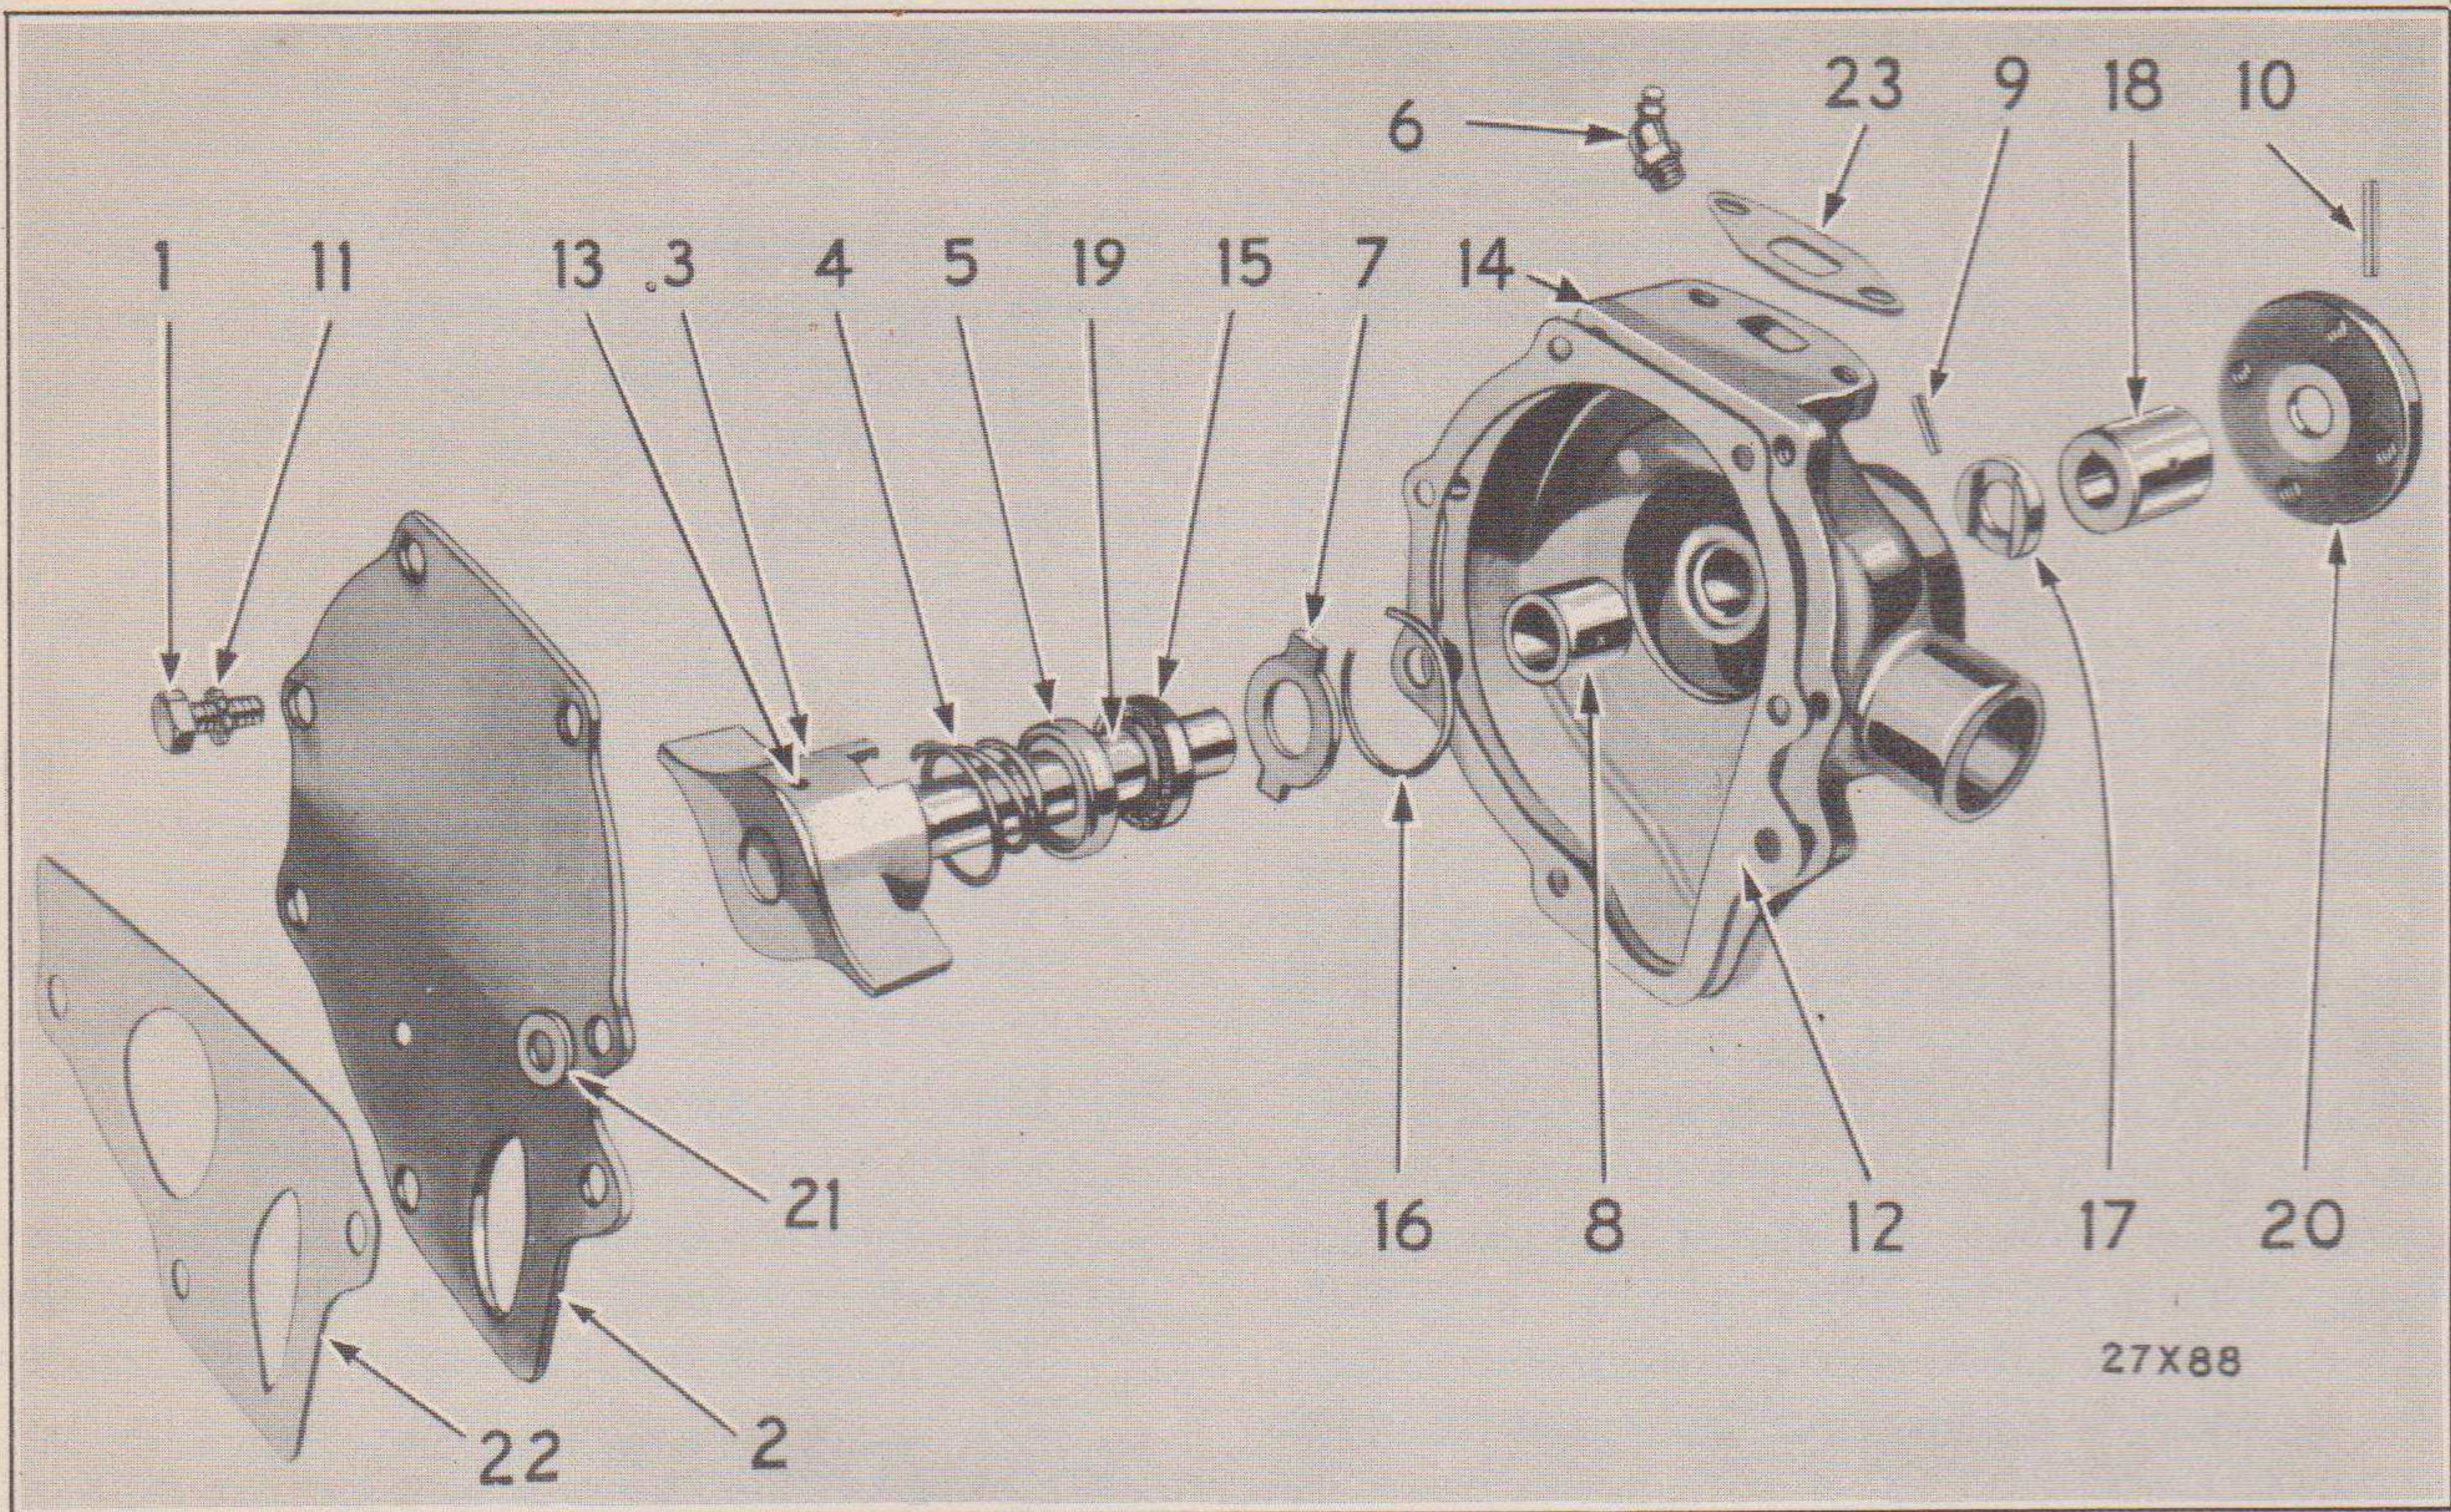
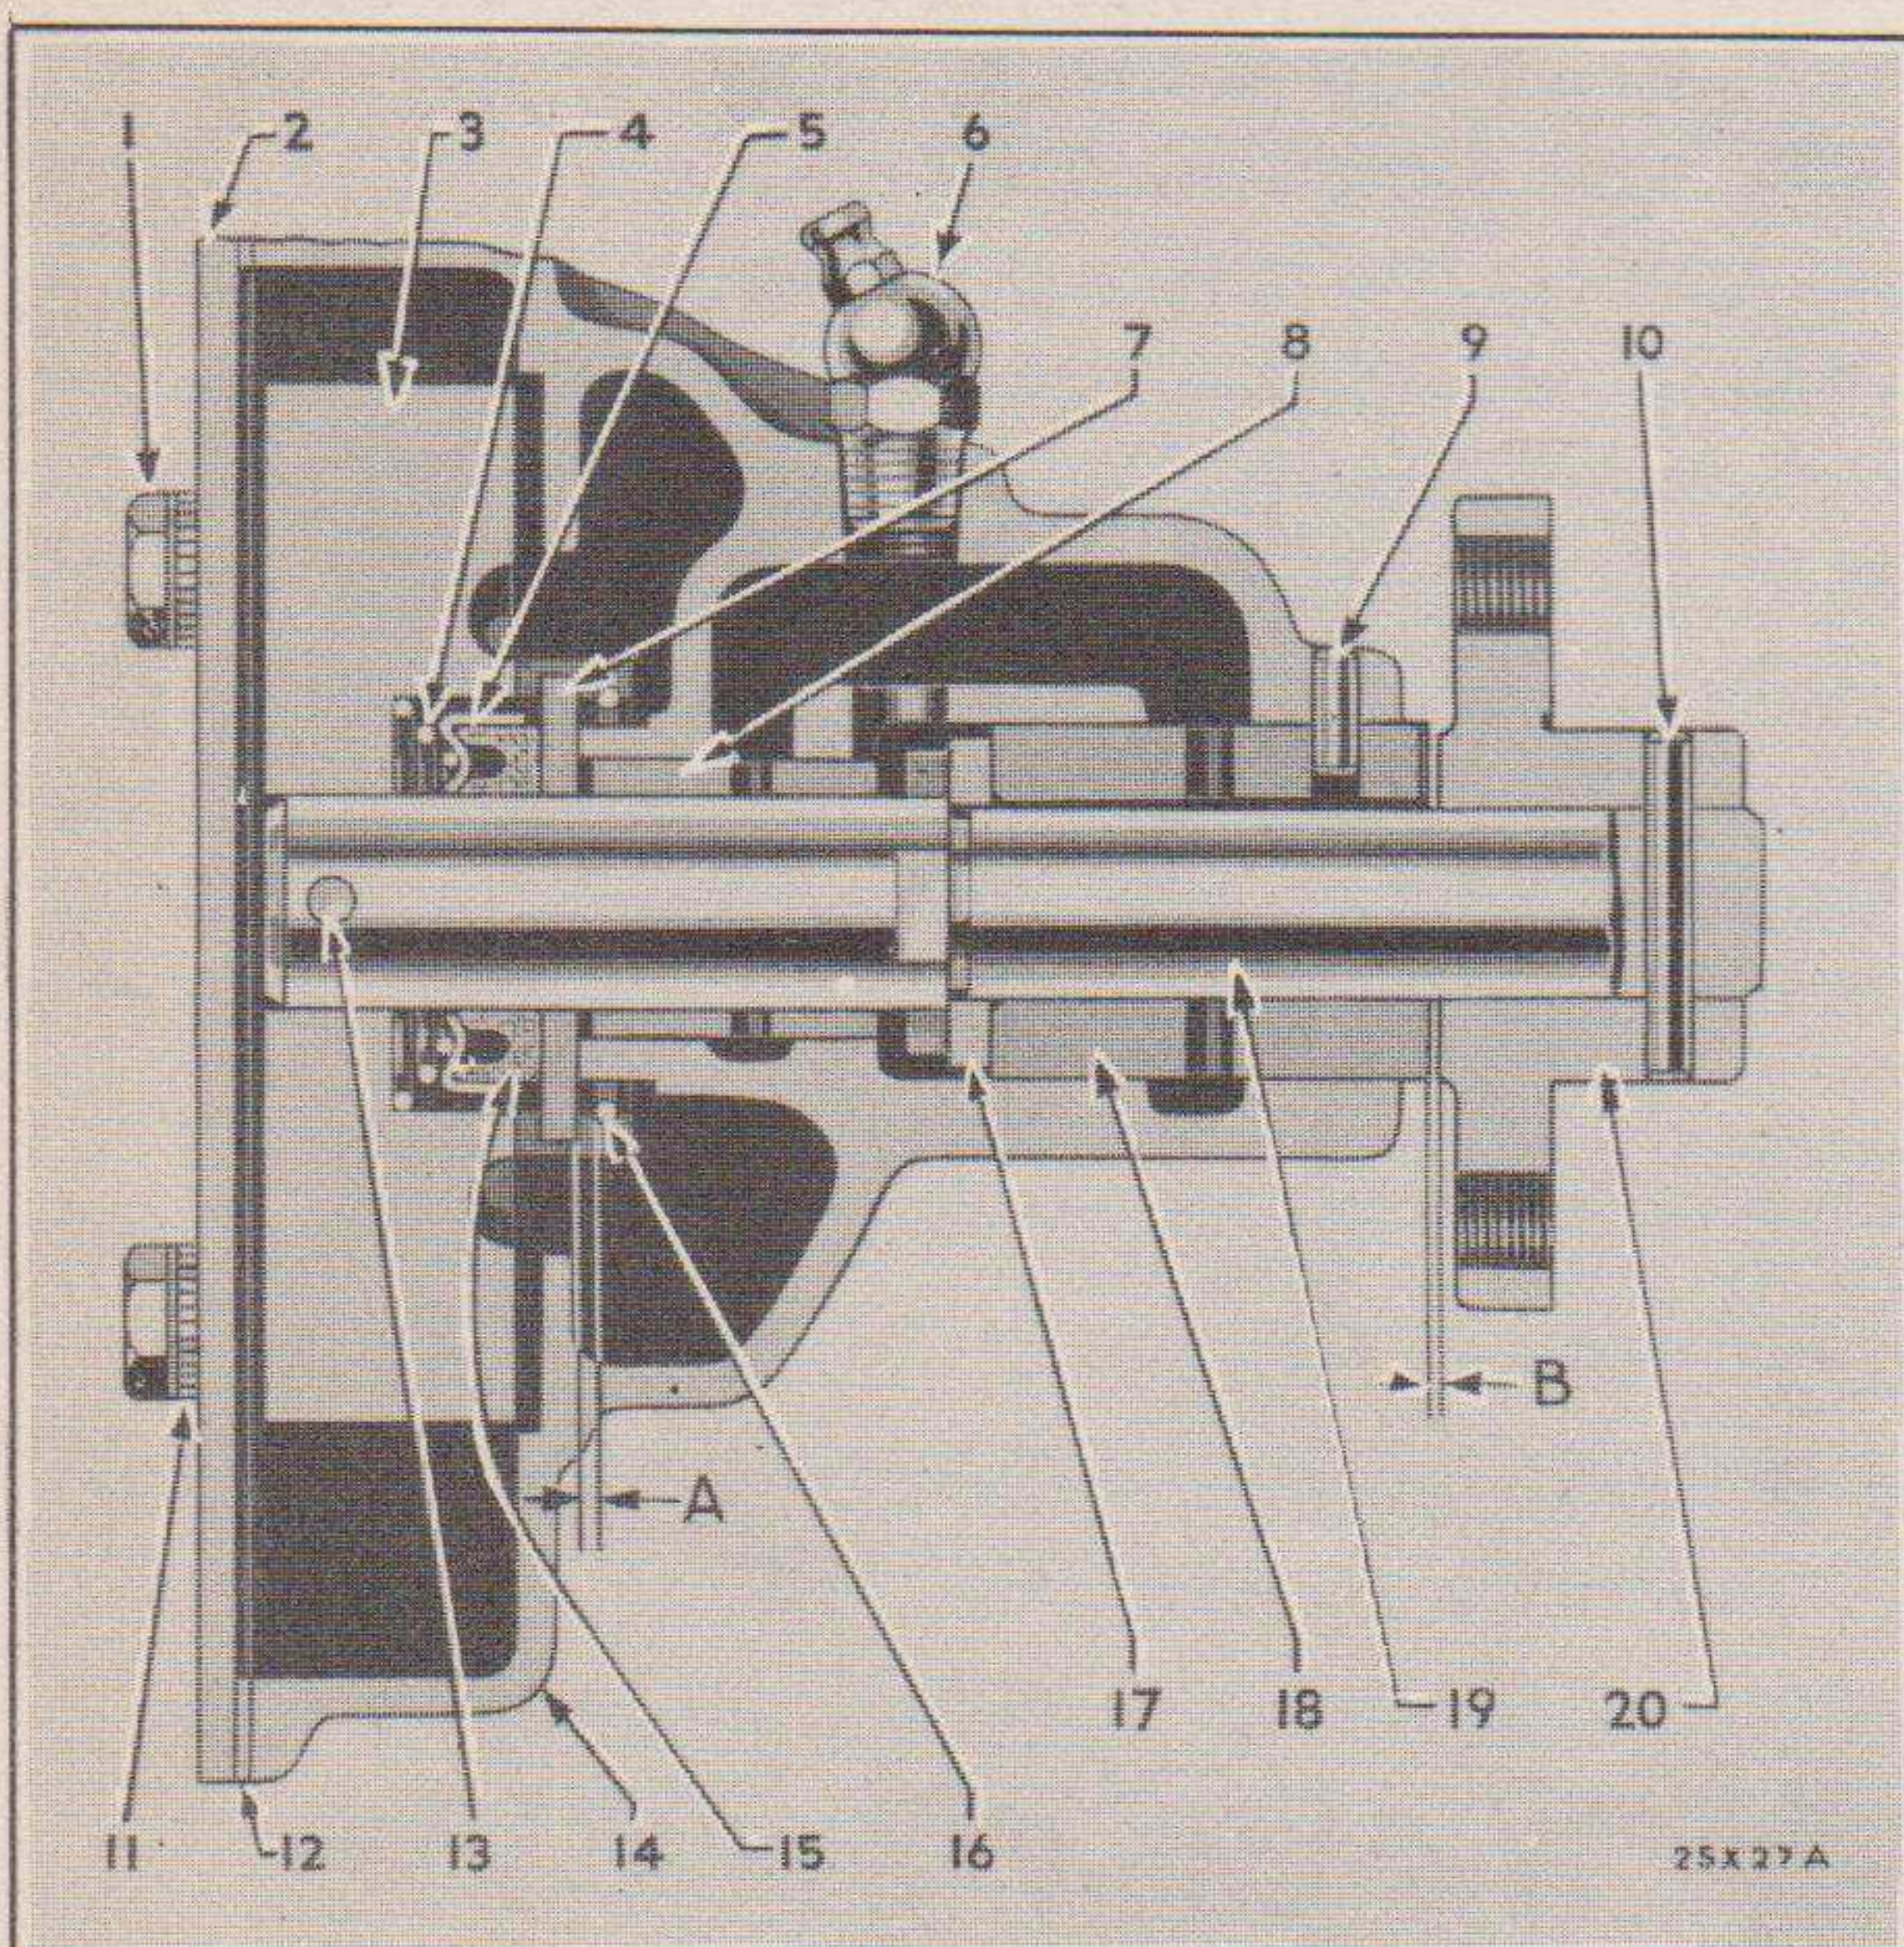
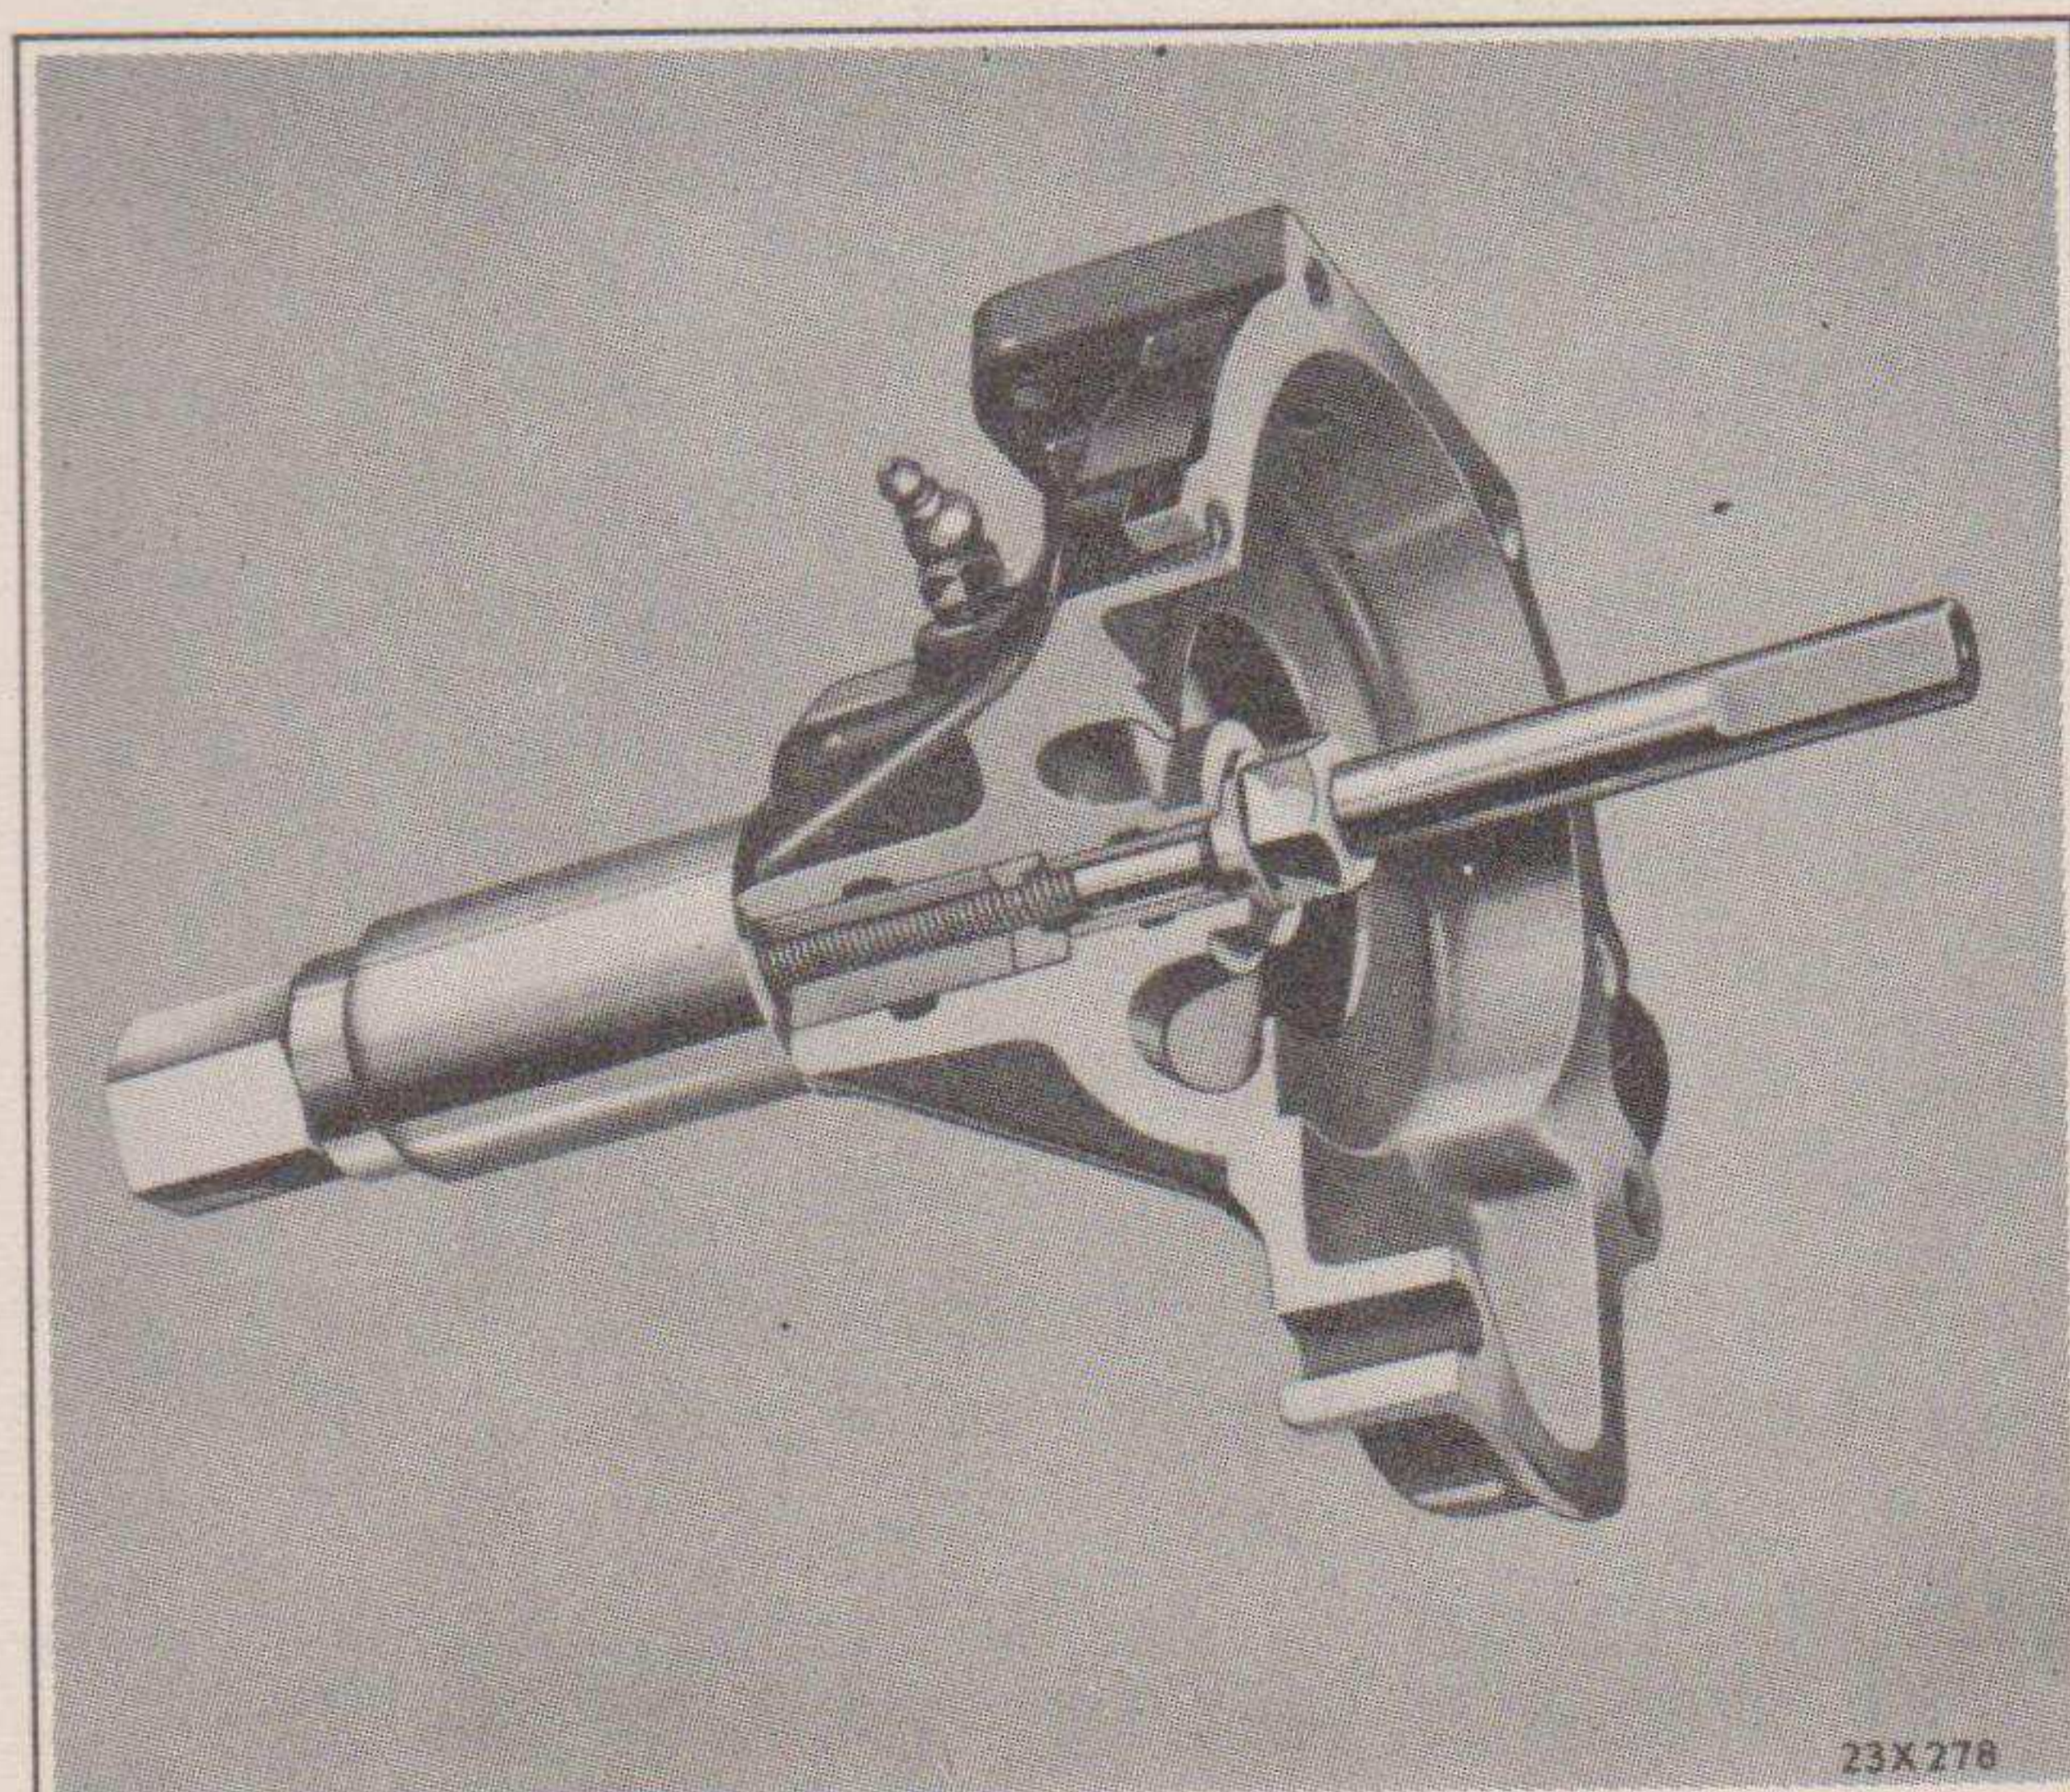
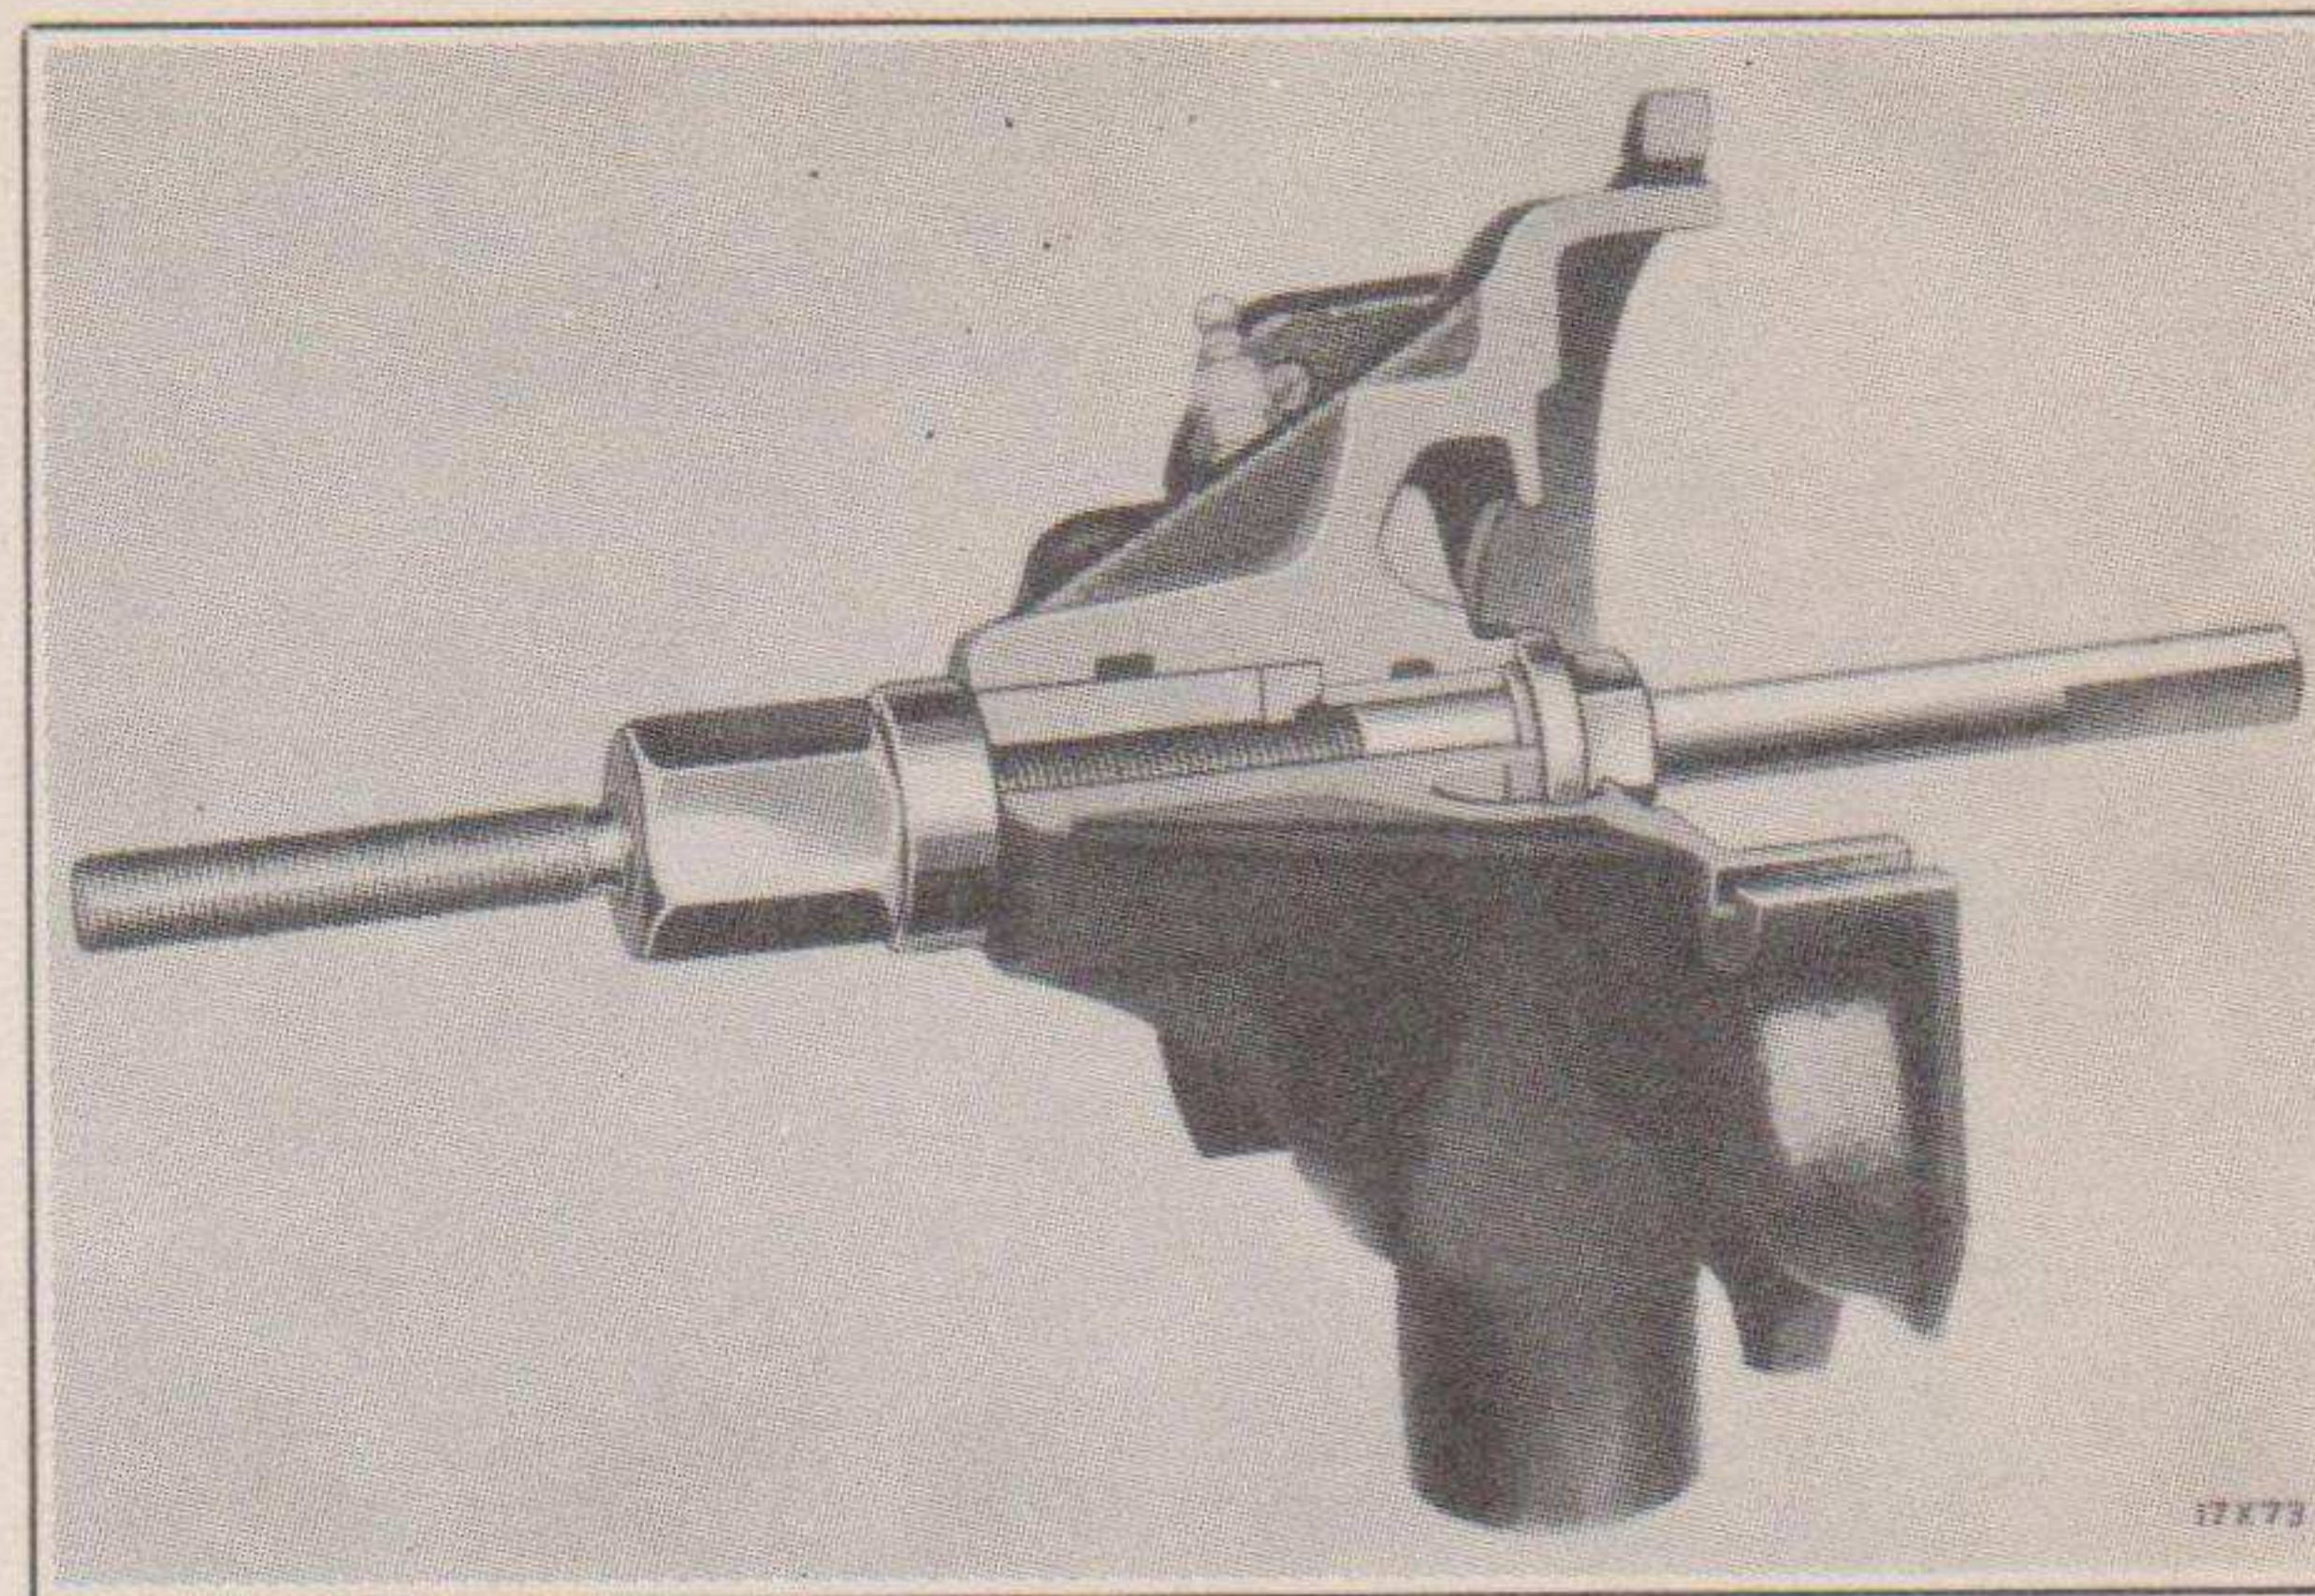

Fig. 99—Water Pump (disassembled view)
Fig. 100—Water Pump (assembled view)
Fig. 102—Removing Water Pump Shaft Bushings
Fig. 103—Installing Water Pump Shaft Bushings
Figs. 99 and 100—Water Pump
(g) Use puller, C-373 (Fig. 102), to remove the front and rear bushings from the pump body—pulling them out toward the front. Fig. 99 shows the water pump disassembled and Fig. 100 shows an assembled view of the pump.
Proper installation of the water pump shaft bushings is important in order to provide the necessary clearance (A, Fig. 100) for water pump impeller. When using special tool C-373, the shaft front bushing (18, Fig. 100) will be properly located and correct clearance maintained for the water pump impeller.
- (c) Start the shaft rear bushing (8, Fig. 100) slightly in the pump body and assemble the complete body over C-373 screw.
- (d) Install the thrust washer (17, Fig. 99) over C-373 screw with the *flat side up*
- (e) Tighten the hex nut, drawing the bushings in position until the top face of the hex nut lines up with the lower edge of the groove in the C-373 puller screw. See Fig. 103. This will give the required clearance of  $\frac{3}{32}$ " shown at "A" in Fig. 100.